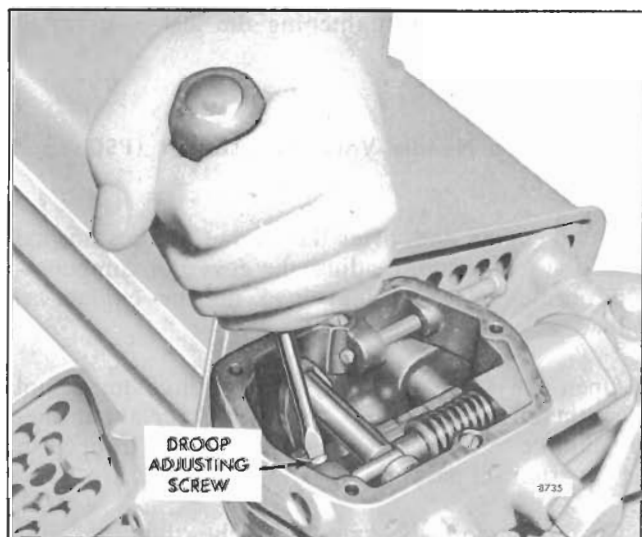

Fig. 9 - Adjusting Speed Droop
4. Loosen the droop adjusting screw (Fig. 9). Move the droop bracket so that the screw is midway between the ends of the slot in the bracket. Tighten the screw.